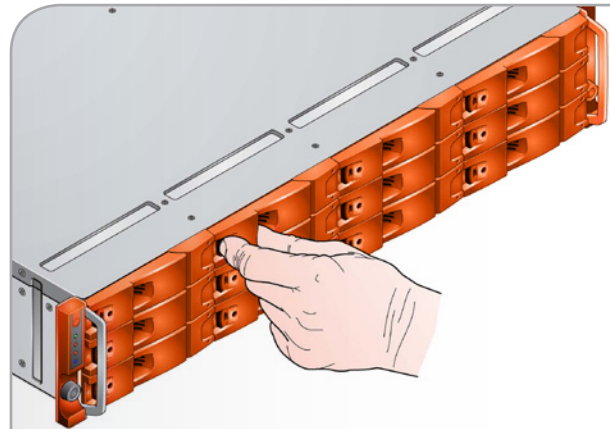

Fig. 96 - Unlatching a Drive Carrier Module
3. Release the carrier handle, by pressing the latch in the handle with your finger and rotating the handle towards the right (Fig. 96).